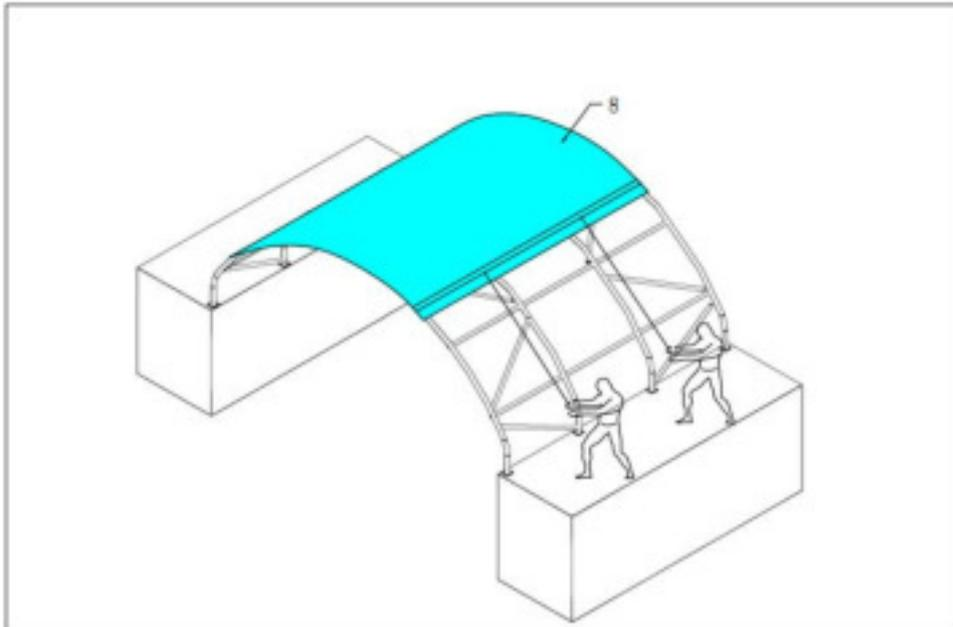

Figure 9
2. As **Figure 9 shown**, put the Roof cover (part code 8) EVENLY, CARRFULLR AND SLOWLY on the frame. Adjust the cover so that it is square and evenly centered on the frame.